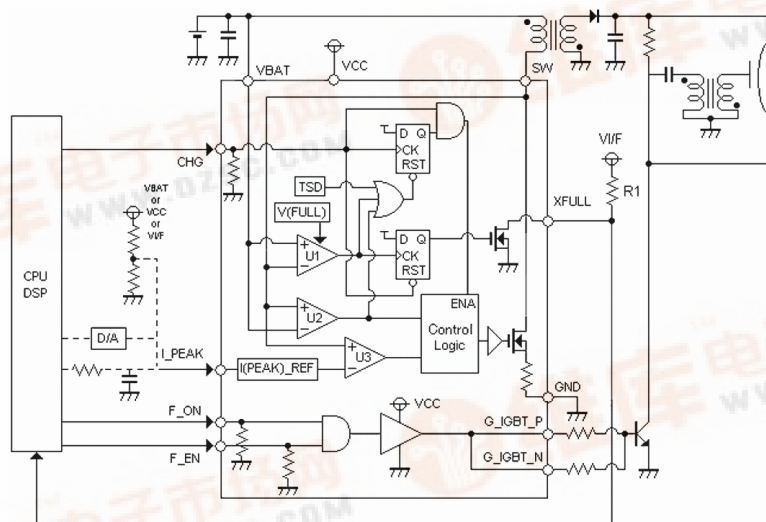
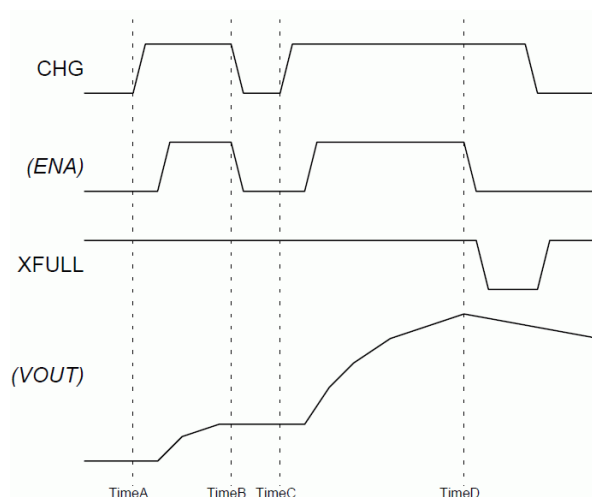

Figure 1. Application Circuit
Figure 4. Charging Sequence Chart
- Forced stop by inputting a low level at CHG (see B in Figure 4)
- Automatic stop by detecting a full charge. VOUT reaches the target value (see D in Figure 4).
When the host inputs the high-level signal into CHG, the voltage of VCC and VBAT must meet the recommended range; VBAT is from 1.4 V to 12 V, VCC is from 2.5 V to 5.5 V. It is acceptable to start recharging after a forced stop controlled by CHG (see C in Figure 4).
When the charging operation is complete, the TPS65573 drives the charge completion indicator pin, XFULL, to a low level. A controller can detect the status of the device as a logic signal when it is connected through a pullup resistor (R1) (see Figure 1). The only way to reset the indication at XFULL is to input a low level into CHG (see Figure 4).